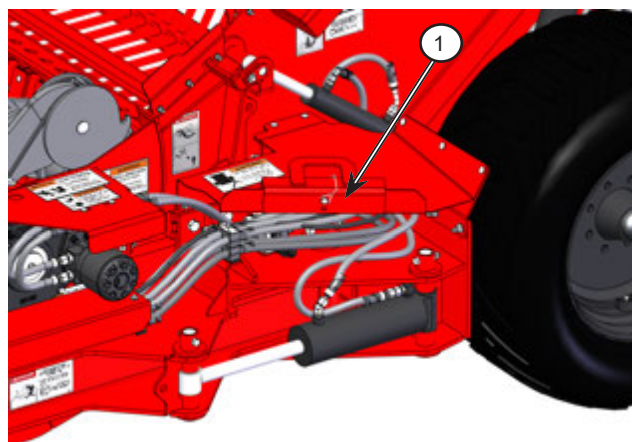

Figure 4.10: Remove the hitch transport lock from storage location
5. Remove the hitch transport lock (1) from the storage location on the hitch hose guard; see *Figure 4.10*.